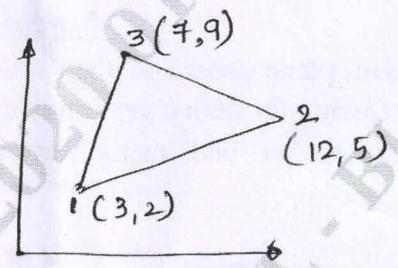

Fig.6(b)
- b. Determine the Jacobian for x, y and ξ, η transformation for a triangle element whose co-ordinates are node 1(3, 2), node 2(12, 5) and node 3(7, 9) also find area of the triangle as shown in Fig.6(b). (06 Marks)